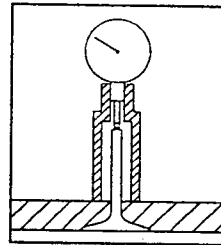

FIGURE 5
2. After grinding valve and seat, place gage over valve stem, as shown in FIGURE 5. Add reading of indicator to the 1" initial height or 1 1/2" if long body is used.